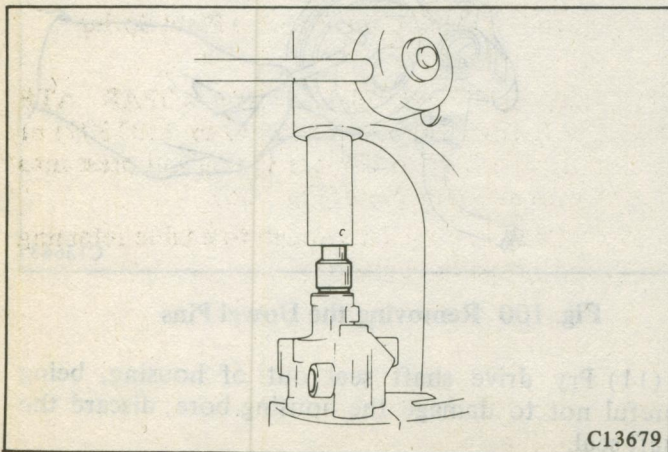

Fig. 101 Installing the Shaft Seal
(1) Install new drive shaft seal using a seal installer with an arbor press or hammer. (Fig. 101)